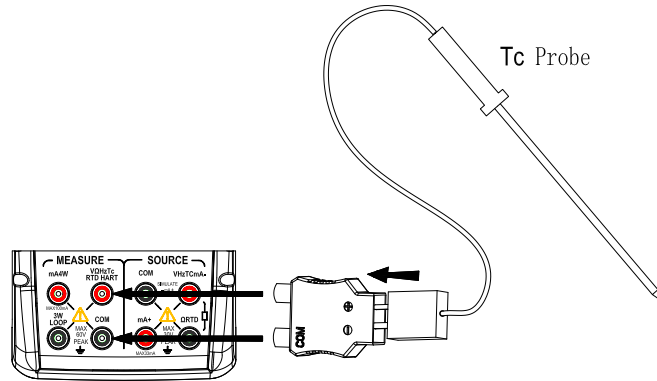

Figure 13 Measuring TC
For thermocouple signal (Figure 13)
Step 5: Connect the lead cables for measurement to the measuring terminals of the measuring calibrator under test as shown in Figure 13. The selected TC mark shall be shown in the right part of the LCD, the default range source value and unit shall be shown in the middle part.